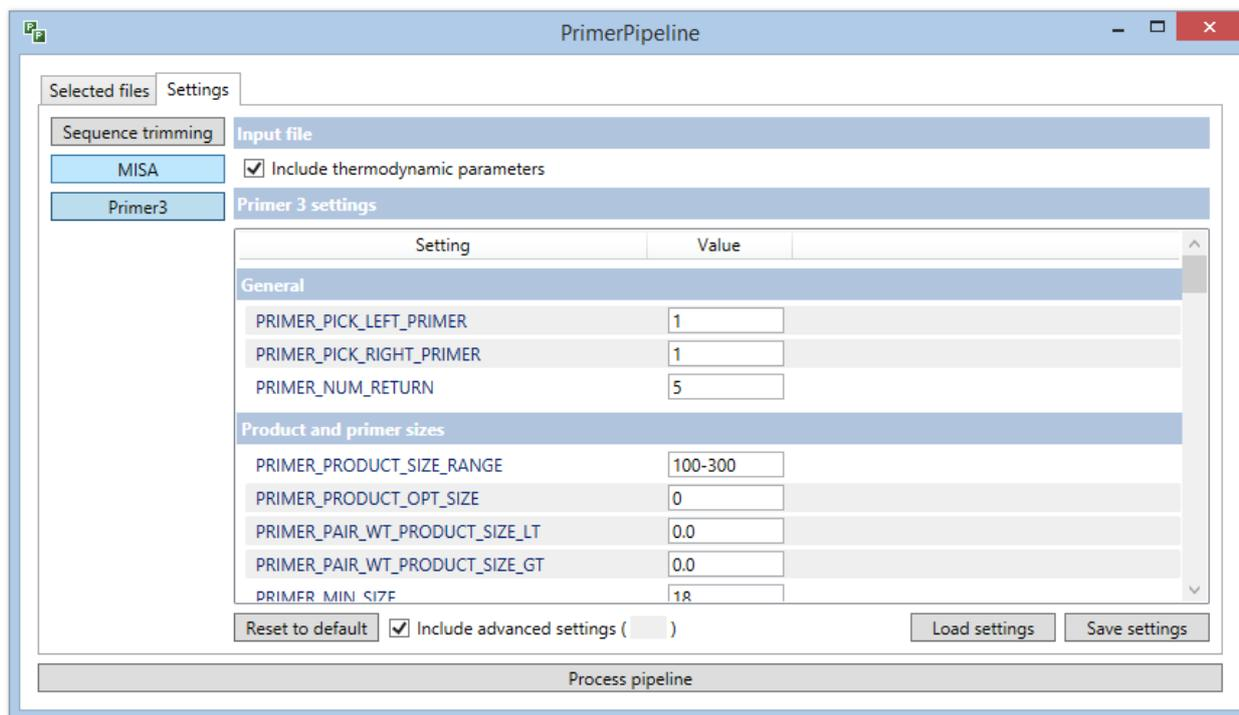

Figure 8. Settings tab, with Primer3 selected, allowing you to edit Primer3 settings (with advanced settings displayed).
- If you wish to see the advanced settings Tick the box at the bottom 'Include advanced settings' and the advanced settings will be added to the list in grey (Figure 8).